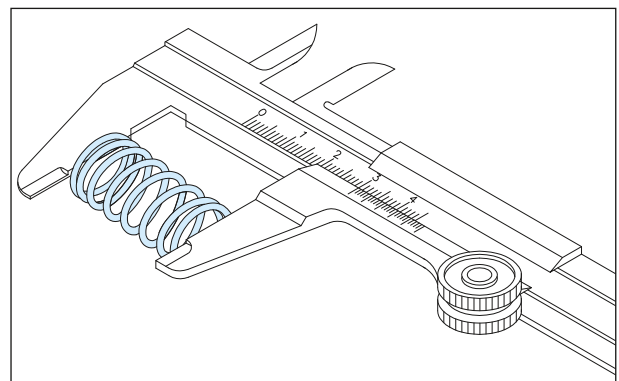

Fig. 3.105
- Measure the free length of the spring clutch (4 nos.). (Fig. 3.105)